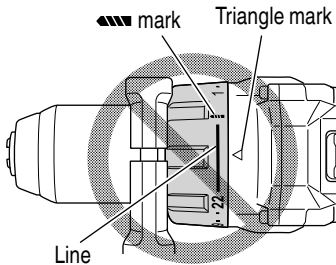

Fig. 16
- Do not use with the clutch dial set at the line between the number "22" and the drill mark "▲▲▲". Doing so may cause damage (See Fig. 16).